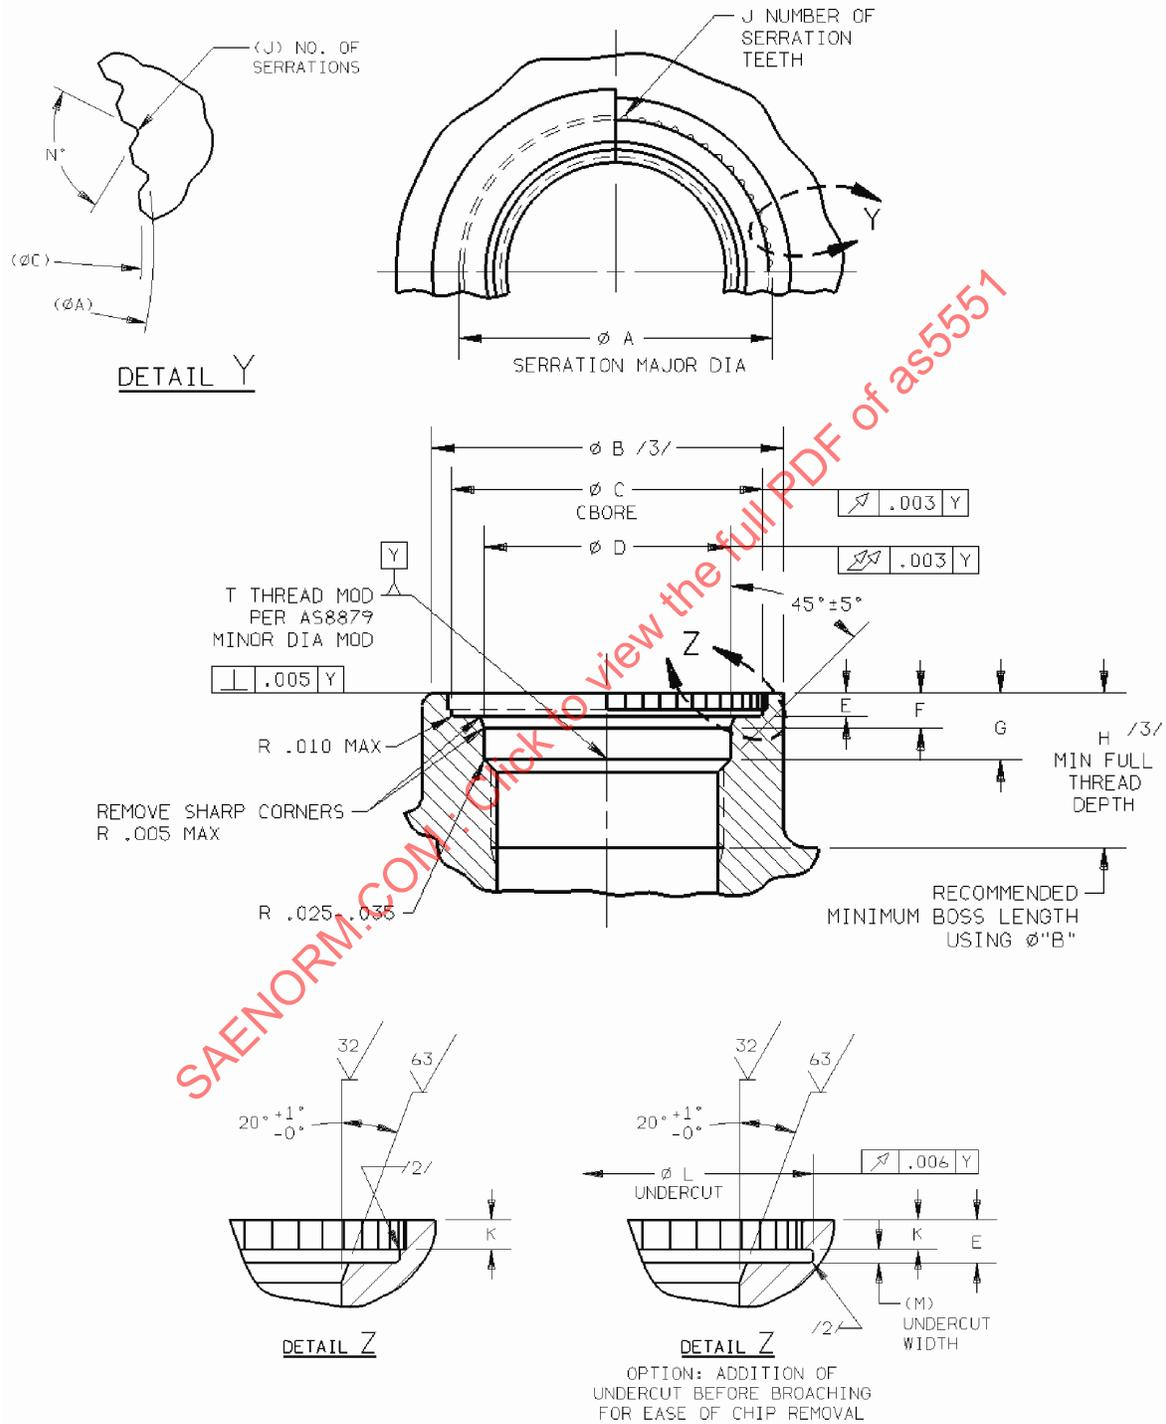

FIGURE 3 - Port
- 4.1.1 Port diameter to be at least the minimum specified in Section 5, Figure 3.